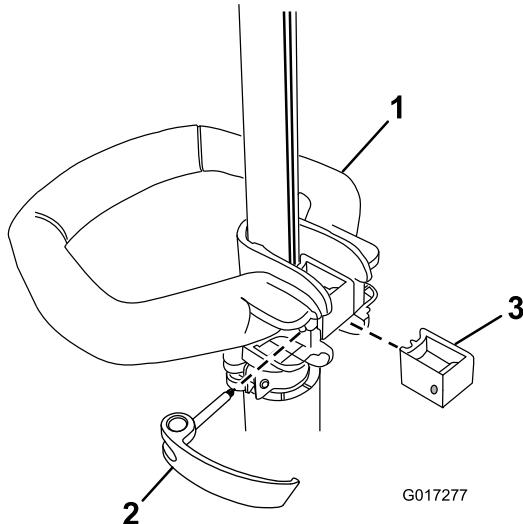

Figure 1
3. Slide the latch from the left through the handle and brace as shown and tighten the latch screw with a Phillips head screwdriver (Figure 1).
1. Position the auxiliary handle on the shaft of the trimmer with the smooth surface facing the operator (Figure 1).
2. Slide the brace into the auxiliary handle so that the brace rests in the groove along the shaft (Figure 1).